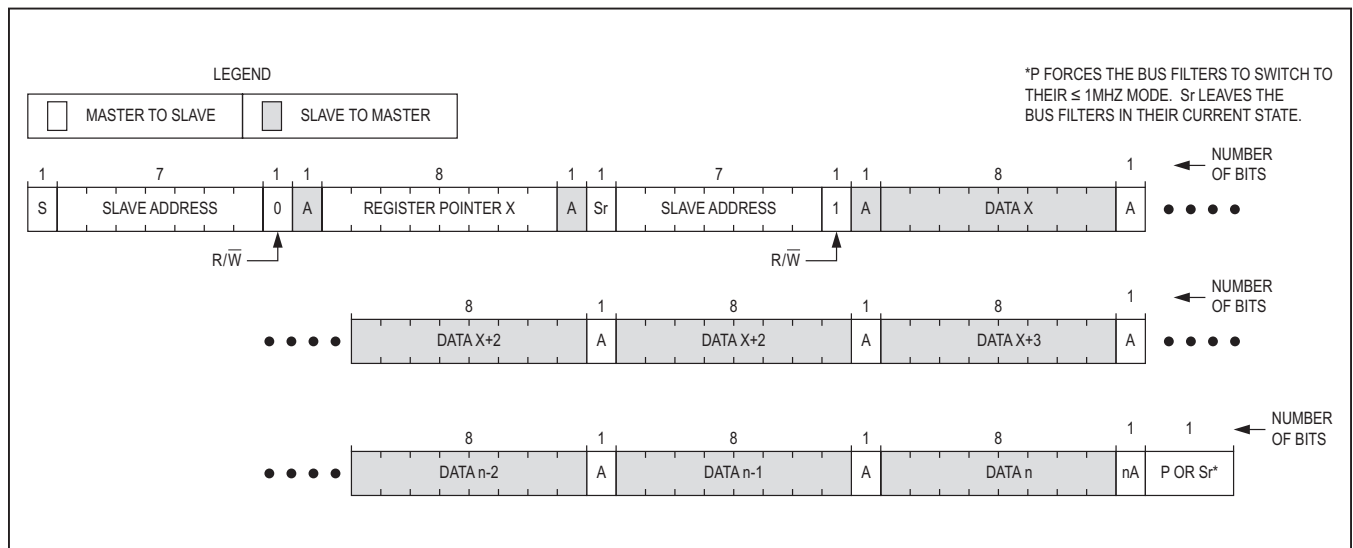

Figure 13. Reading Continuously from Sequential Registers X to N
Figure 13 shows the protocol for reading from sequential registers. This protocol is similar to the read byte protocol except the master issues an acknowledge to signal the slave that it wants more data—when the master has all the data it requires it issues a not-acknowledge (nA) and a stop (P) to end the transmission. The continuous read from sequential registers protocol is as follows:
- 1) The master sends a start (S) command.
- 3) The addressed slave asserts an acknowledge (A) by pulling SDA low.
- 8) The addressed slave asserts an acknowledge (A) by pulling SDA low.
- 10) The master issues an acknowledge (A) signaling the slave that it wishes to receive more data.